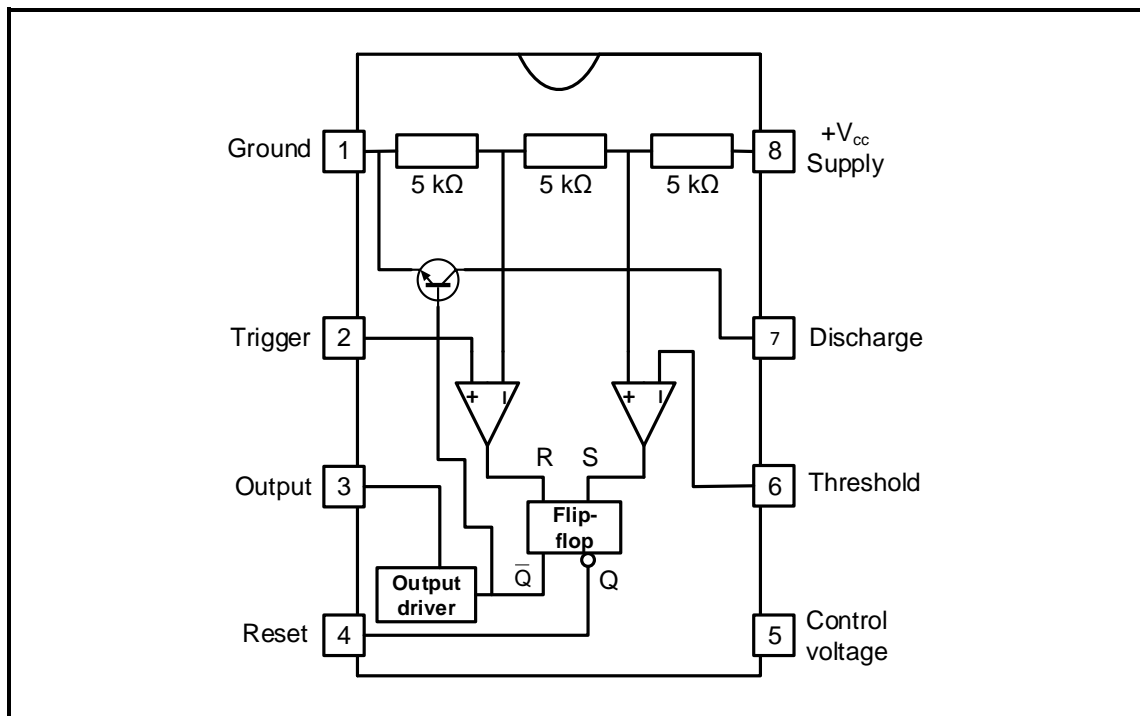

FIGURE 4.2: INTERNAL LAYOUT OF 555 TIMER IC
4.2 Refer to FIGURE 4.2 below and answer the questions that follow.